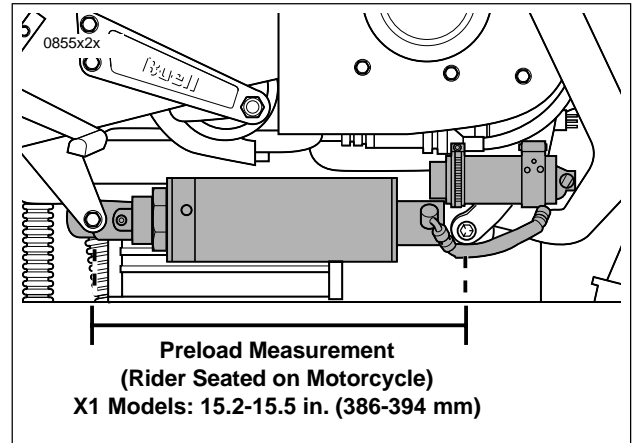

Figure 29. X1 Rear Shock Preload Adjustment
1. See Figure 29. With a rider seated on the motorcycle, measure the distance between the centers of the front and rear shock eye. The optimum preload measurement is 15.2-15.5 in. (386-394 mm).
2. See Figure 29. Adjust shock preload until the measurement is within the optimum preload measurement.